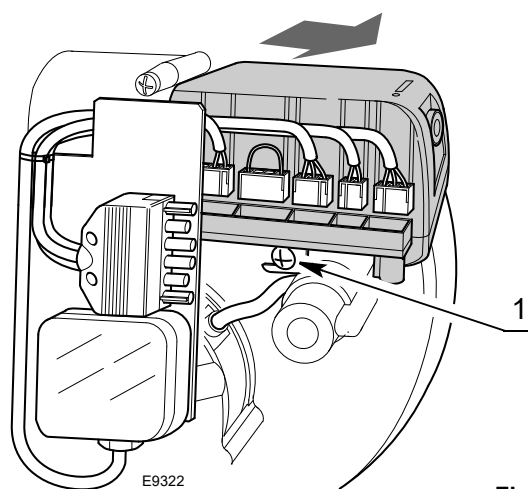

Fig. 17
- disconnect all the connectors connected to it, the 6-pin plug, the high voltage cables, and the earth wire (TB);
- loosen the screw 1)(Fig. 17) and pull the control box in the direction of the arrow.
- tighten screw 1)(Fig. 17) with a tightening torque of $1 \div 1.2 \text{ Nm}$;